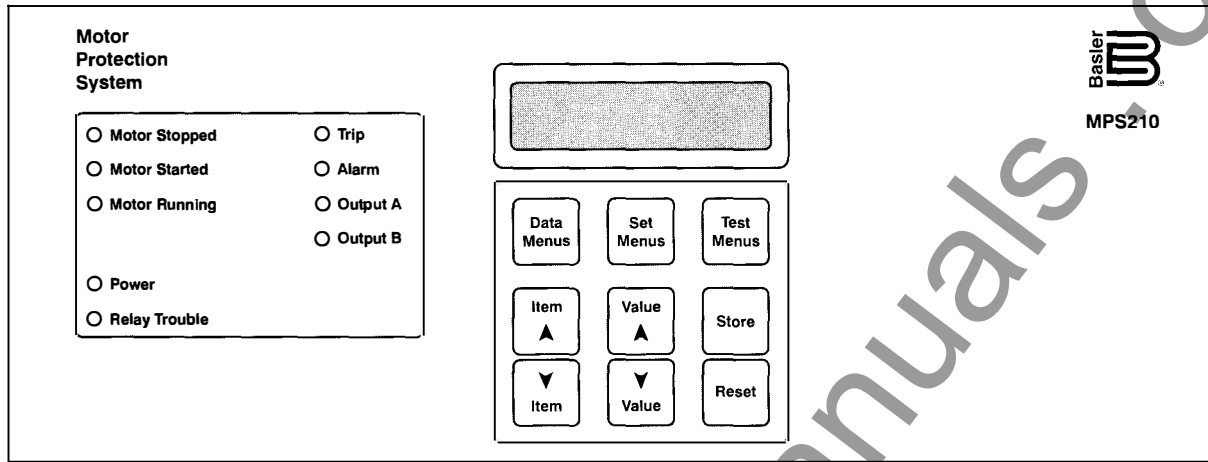

Figure 2 - Front Panel (Horizontal Case)
The human machine interface (HMI) includes a backlit 2-line LCD display and a keypad to allow local interaction with the relay. All setting and setup information can be displayed or adjusted from the front panel. Likewise, all measured, calculated and recorded data can be accessed. Nine (9) LEDs are also included to indicate the status of the relay and the associated equipment. See Figure 2.